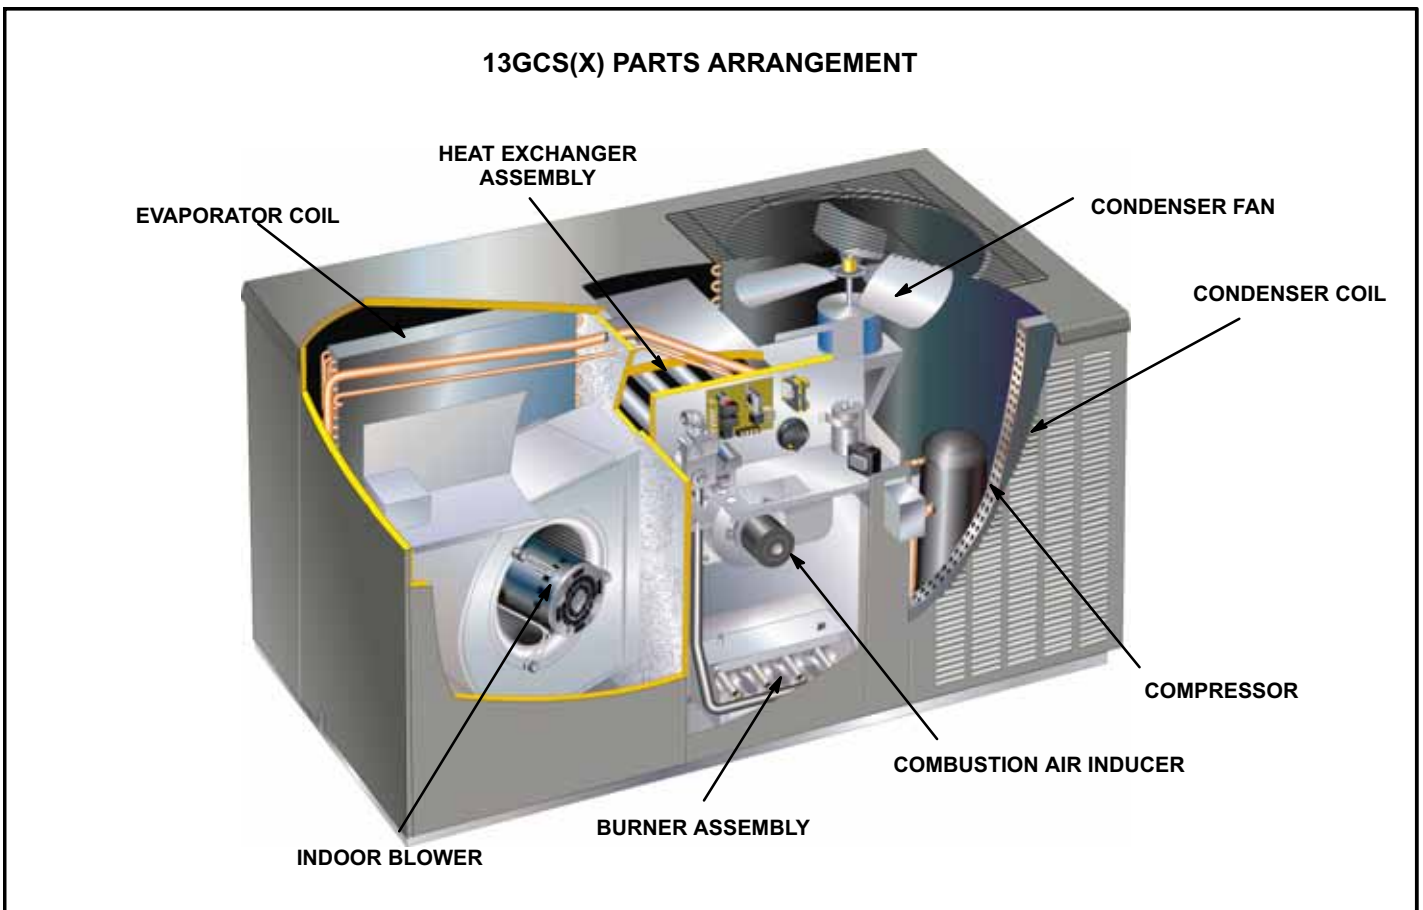

FIGURE 1
13GCS(X) components are shown in figure 1.